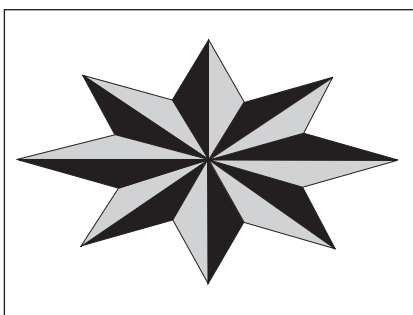

Fig. 6
6. Cut out sections for which second color is to be substituted. Remove these pieces and place the long side against a straightedge on top of the color to be inserted into the star. Use the piece as a template and cut along the two short sides. Remove the piece and cut along the straightedge to form the third side. Insert the sections into the star and tape the pieces together. Position the star on the third color and tape it down. Score around the entire star and set it aside. Cut along the scored lines and replace with the two-colored star (Fig. 6).